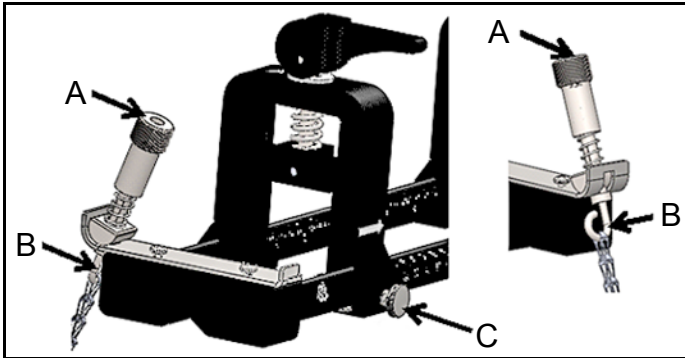

Figure 8: Bracket Preliminary Setup
1. Before mounting the clamp-on fixture, refer to *Figure 8* on page 10 and proceed as follows:
- Ensure that the chain mechanism screws (A) that are attached to the end piece flats are fully loosened.
- Ensure that the last link on the chain is secured within the chain mechanism screw slot (B) on both sides of the end piece.
- Ensure that the thumb screw (C) is tightened on the movable clamp so that no motion is allowed during the mounting process.